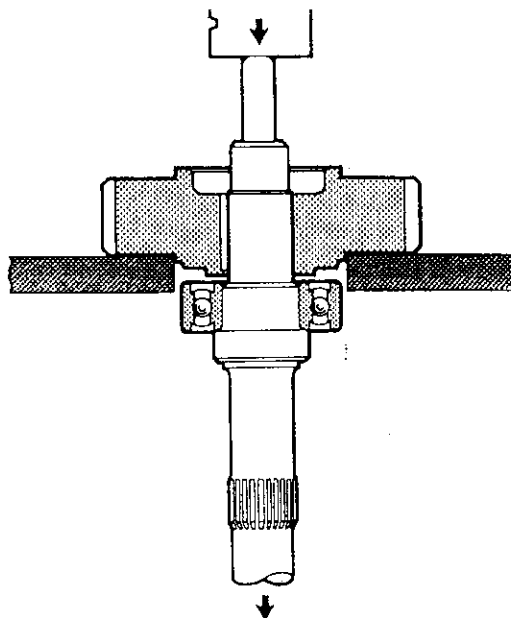

Figure 3.7
14. Reverse drive shaft in arbor and, after supporting drive shaft gear, press out shaft and bearing from drive gear. Remove drive shaft gear key (27). See Figure 3.7.